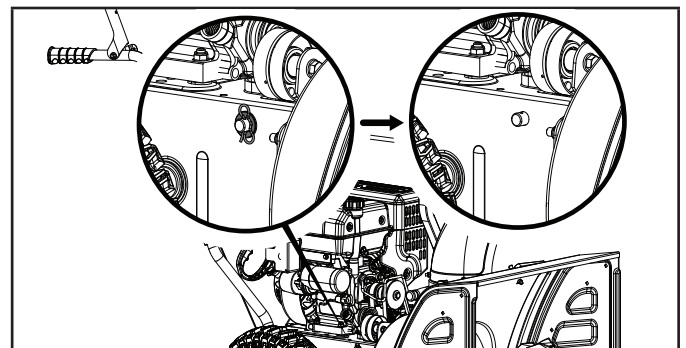
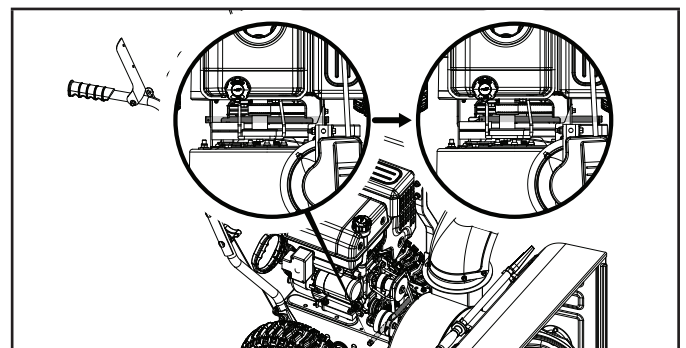

Figure 24B
Figure 24C
2. Remove clip and washer (Fig. 24B), pull support rod $\frac{1}{2}$ way out from other side of snowblower (Fig. 24C).